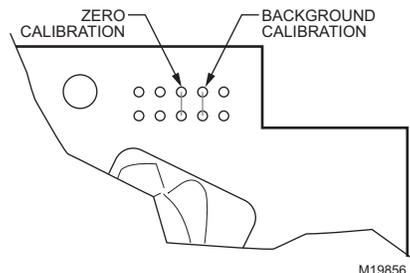

Fig. 24. C7632 calibration pads.
3. Execute calibration by shorting the proper two soldering pads (see Fig. 24).
5. Execute calibration by shorting the proper two soldering pads (see Fig. 24).